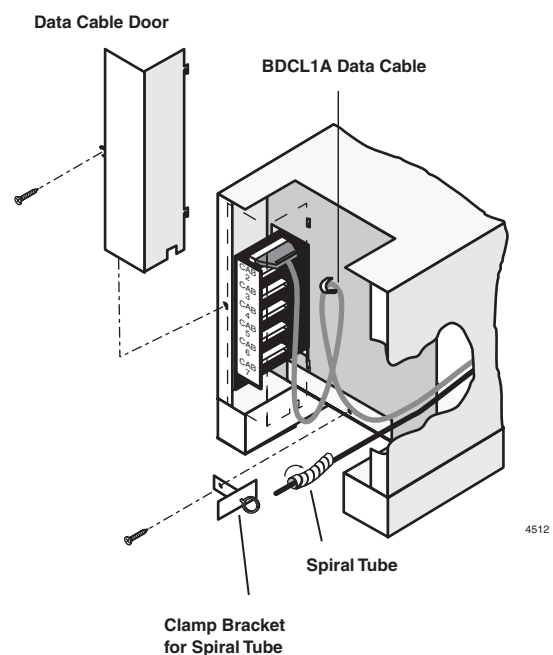

Figure 3-31 Insert Optical fibre Through Cabinet
- ✦ Attach the plastic guide to the bracket provided with the RRCU1A card. See Figure 3-31.
- Route the cable through the cabinet according to Figure 3-31.